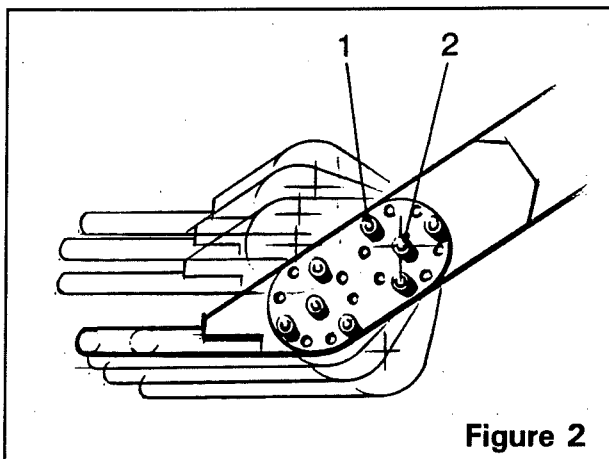

Figure 2
Level the harvester whilst standing it on a firm piece of ground and reverse the tractor up to it. Adjust the drawbar to align it with the tractor pick-up hitch ensuring that the towing eye is parallel with the ground. To adjust the towing eye, remove the twelve securing bolts (**item 1, figure 2**) and loosen the four pivot bolts (**item 2, figure 2**). Adjust the towing eye into one of the seven positions shown so that it approximately